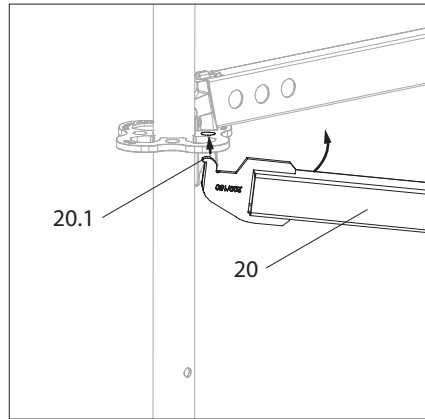

Fig. A4.02a
1. Thread the mounting lug (20.1) of the horizontal brace (20) from below into the brace adapter receptacle of the first rosette and secure it by swiveling the brace upwards. (Fig. A4.02a + A4.02b)